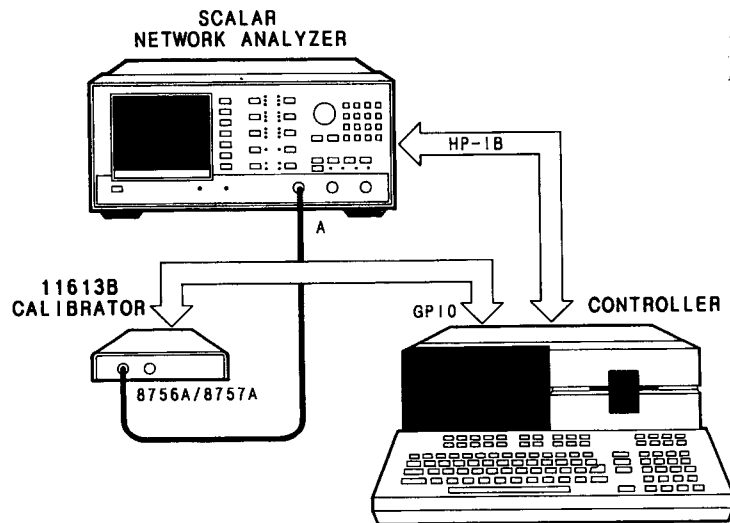

Figure 4-4. HP 8756A Calibration Setup
1. Connect the equipment as shown in Figure 4-4 and allow one hour for warm-up of the network analyzer. Observe the operating temperature limits. During this time leave all of the covers of the HP 8756A on.